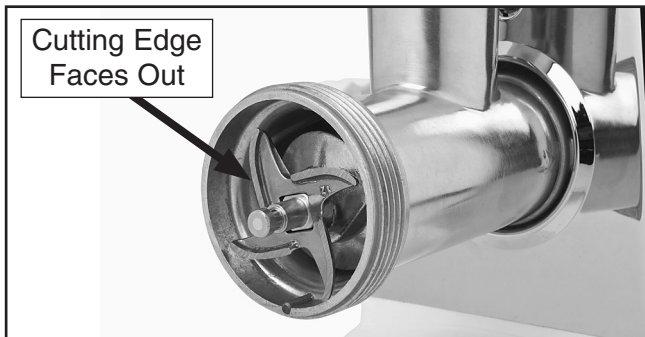

Figure 6. Grinding blade installed.
- Slide the grinding blade onto the end of the auger so the flat cutting edge of the blades faces outward, as shown in **Figure 6**.